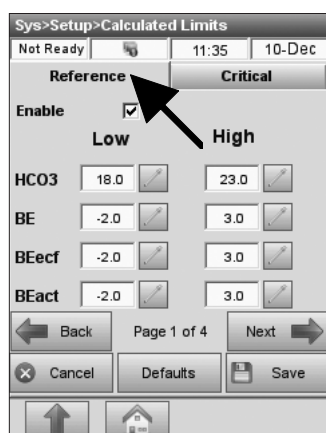

Fig. 3-31 Reference Limits
2. On the **<Reference>** tab (Fig. 3-31), select the parameter you want to change and press  to enter the new limit value. By default, reference ranges are enabled.